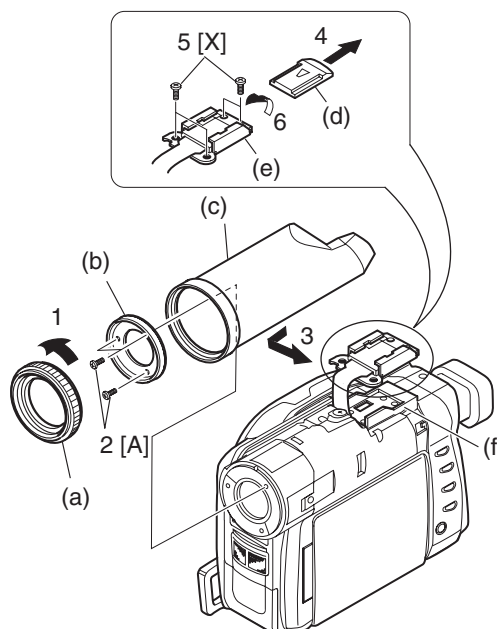

Fig. 4-8-1 How to Remove Disc
- 1) Turn the hood (a) in the direction of the arrow to remove it. (See Fig. 4-8-1)